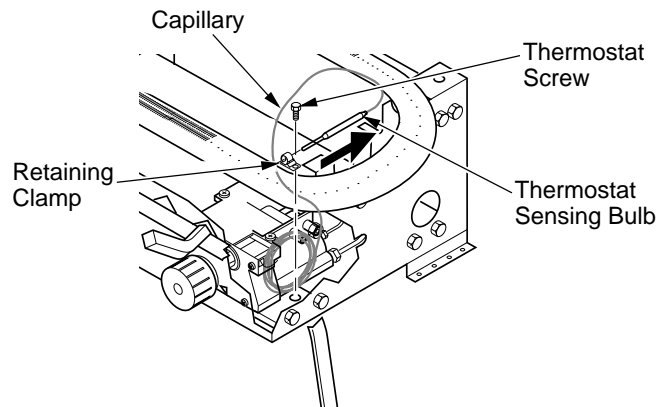

Figure 48 - Removing Thermostat Sensing Bulb
2. With 1/4" hex driver or socket, loosen the thermostat screw. Carefully slide the thermostat sensing bulb out of the retaining clamp (see Figure 48).